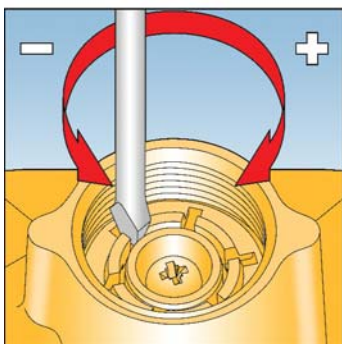

Fig. 7
6. Insert a flat bladed screwdriver into one of the partial slots on the OPSS spring holder. See Fig. 7.
15. Slowly turn OPSS spring holder anticlockwise (-) until OPSS device trips off. See Fig. 7.